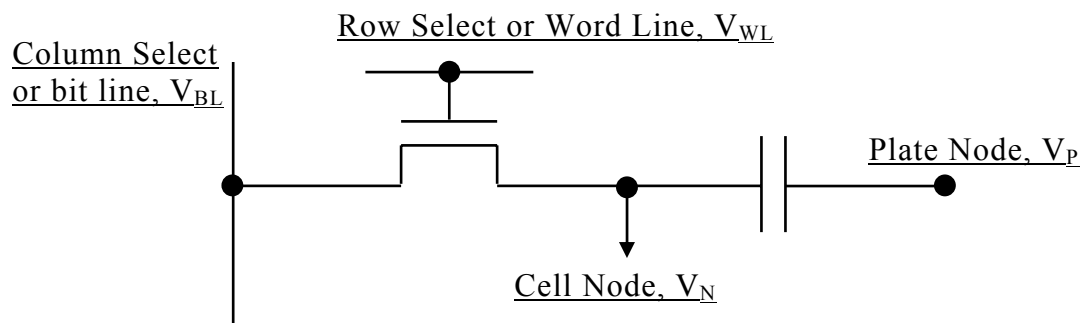

Figure Q3a
- Q.3 (b) Explain how read and write operations are performed, and how storage is achieved using the dynamic random access memory cell shown in Figure Q3a. Why is the cell dynamic and needs refresh?